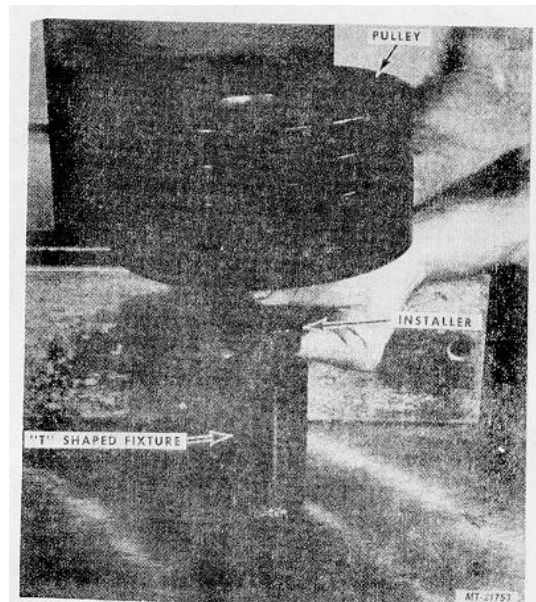

Fig. 61.
24. Support Pulley with Installer SE-2782-2 located in the bearing bore of the pulley, Fig. 61.